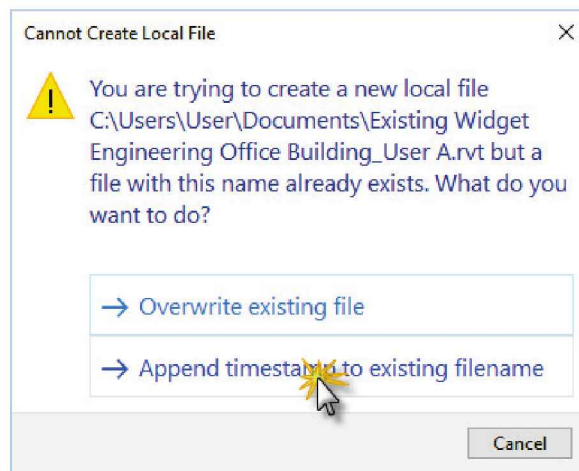

FIGURE 17-4.17 Cannot Create Local File dialog
40. **USER A:** Click **Append timestamp to existing filename** (Figure 17-4.17).